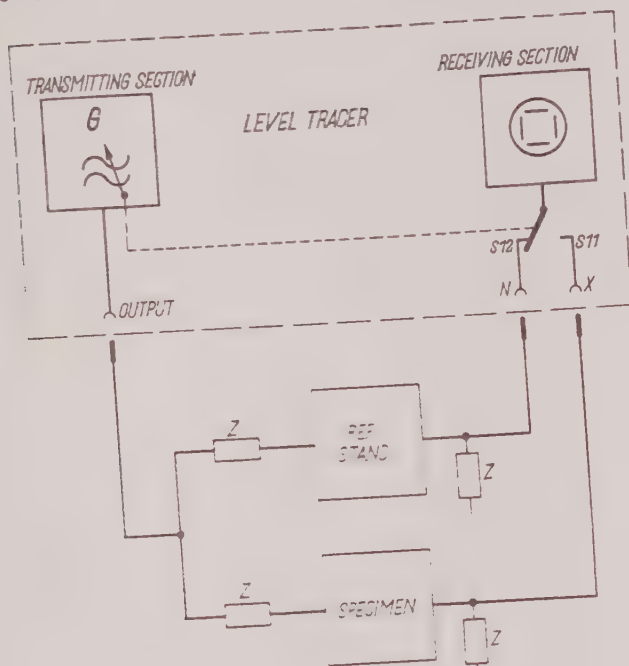

Fig. 2c Comparing level measurement
2. Operate S2 to position " $Z_i \sim 0$ for $Z = 600 \Omega$ " or " $Z_i \sim 0$ for $Z = 300 \Omega$ ". If matching is required, build out the internal impedance of the transmitting section separately for the specimen X and the reference standard Y to their impedance values (Fig. 2c)